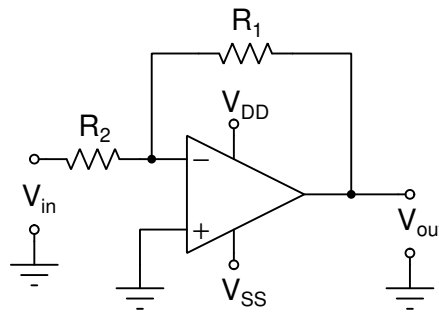

Figure 4: Inverting amplifier
- (a) Derive the gain of the inverting amplifier shown in Figure 4.
- (b) Realise the circuit given in Figure 4, with $V_{in} = 250$ mV peak-to-peak from the function generator, $V_{DD} = 12$ V, $V_{SS} = -12$ V (refer to the pin diagram for making connections). Connect the resistors R_1 and R_2 according to Table 3 and note the gain obtained in each case. Compare the values with the calculated gain.